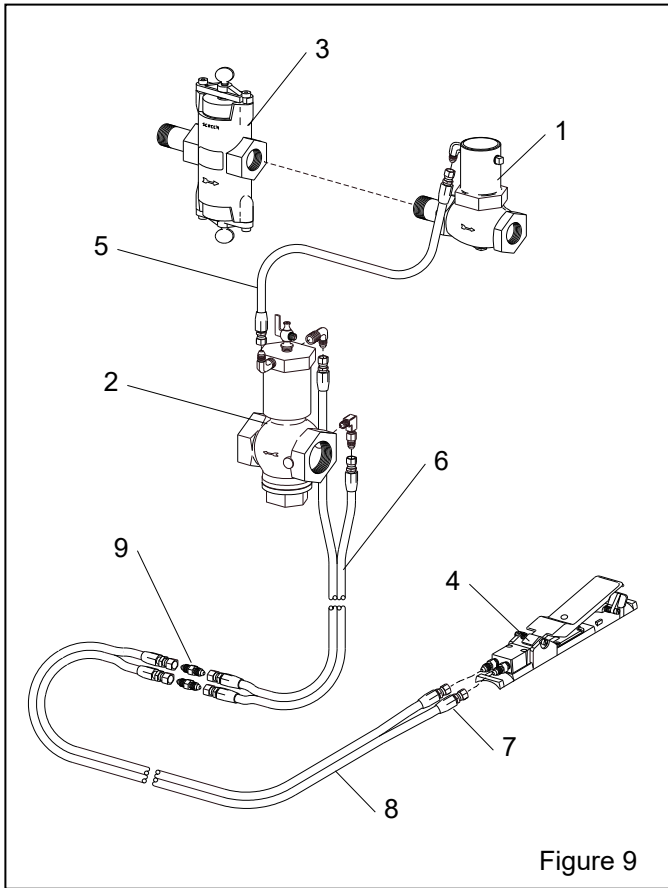

Figure 9
7.2 TLR-100 Remote Control, Figure 9